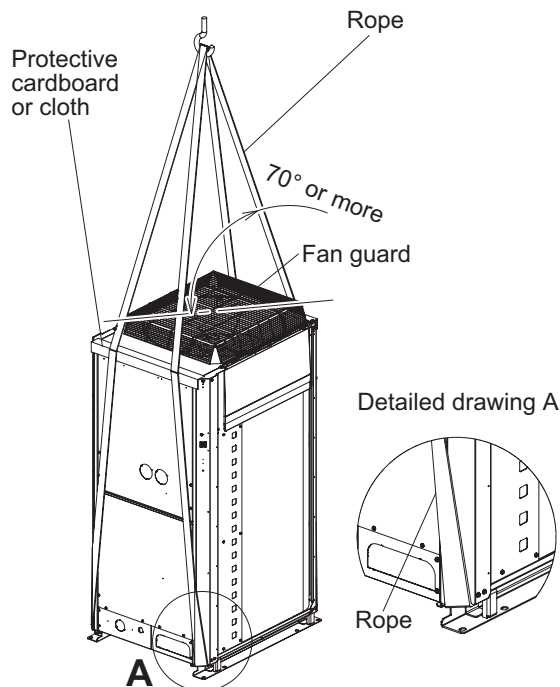

Fig. 2-18-1
- When hoisting the outdoor unit, pass ropes through the left and right holes of the bottom plate as shown in the Figs. 2-18-1 to 2-18-3.